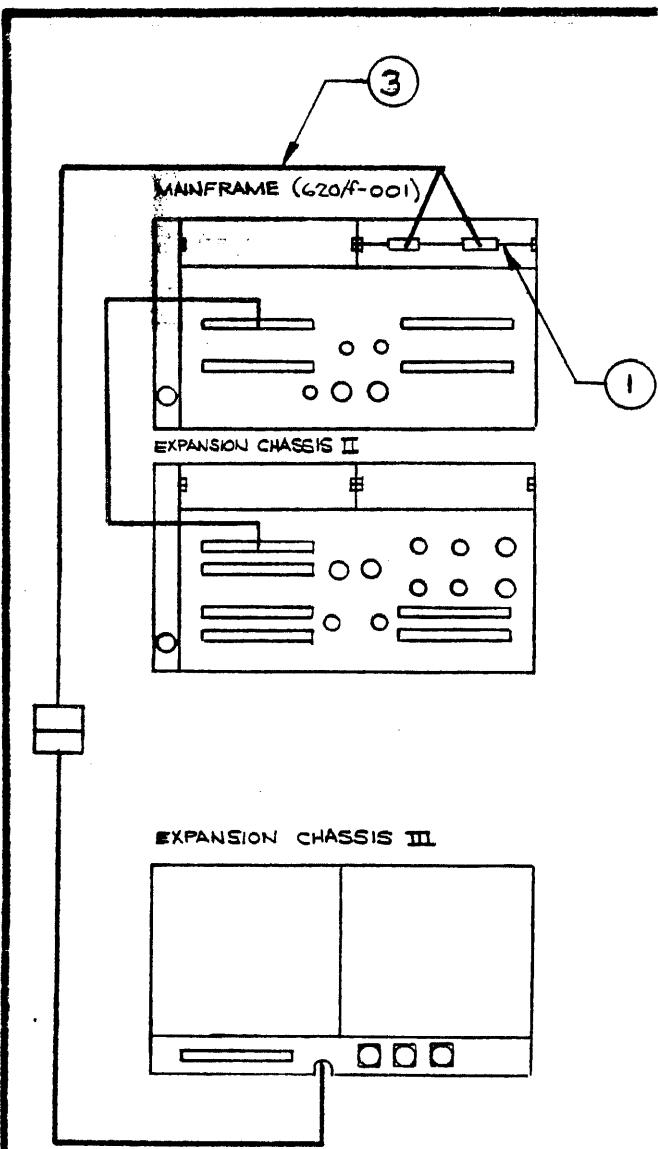

FIGURE 1
3. FOR TYPICAL INSTALLATION INTO A 620/f SEE FIGURES 1 OR 2